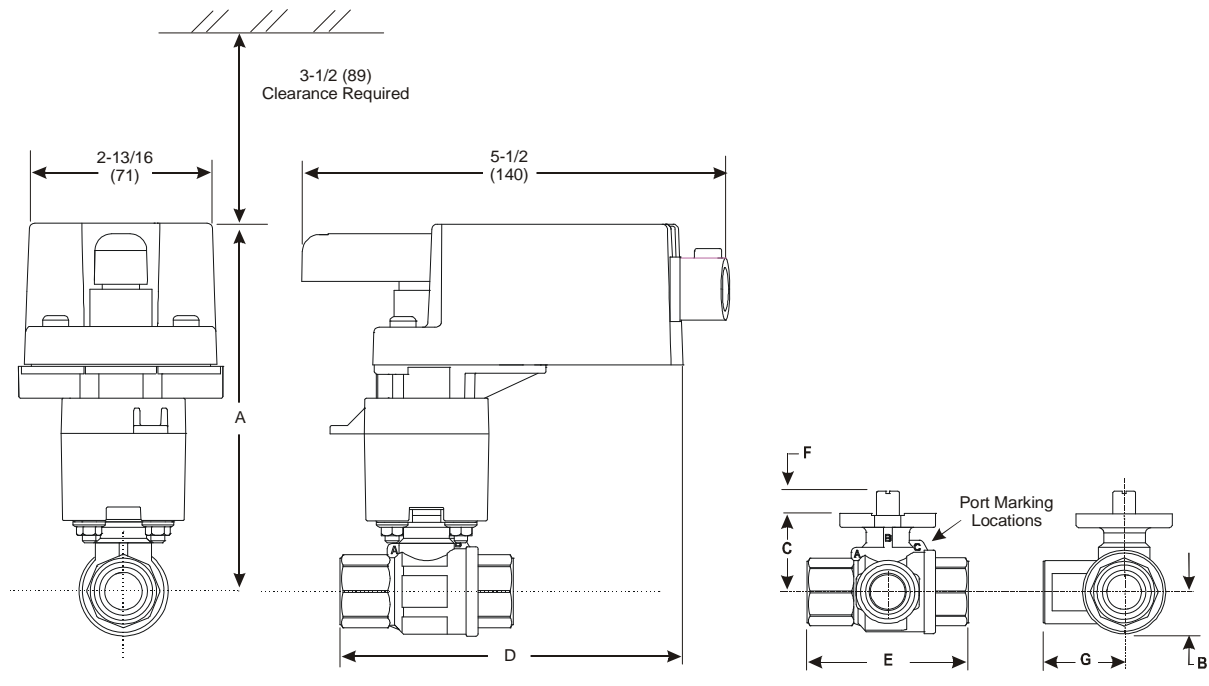

Figure 3: Field-Installed VA9104 Series Electric Actuator Dimensions with Optional M9000-561 Thermal Barrier Dimensions, in. (mm)
See Figure 3 and Table 3 for VA9104 Valve Actuator dimensions with optional M9000-561 Thermal Barrier installed.
1. Port A must always be connected to the coil (Figure 3).